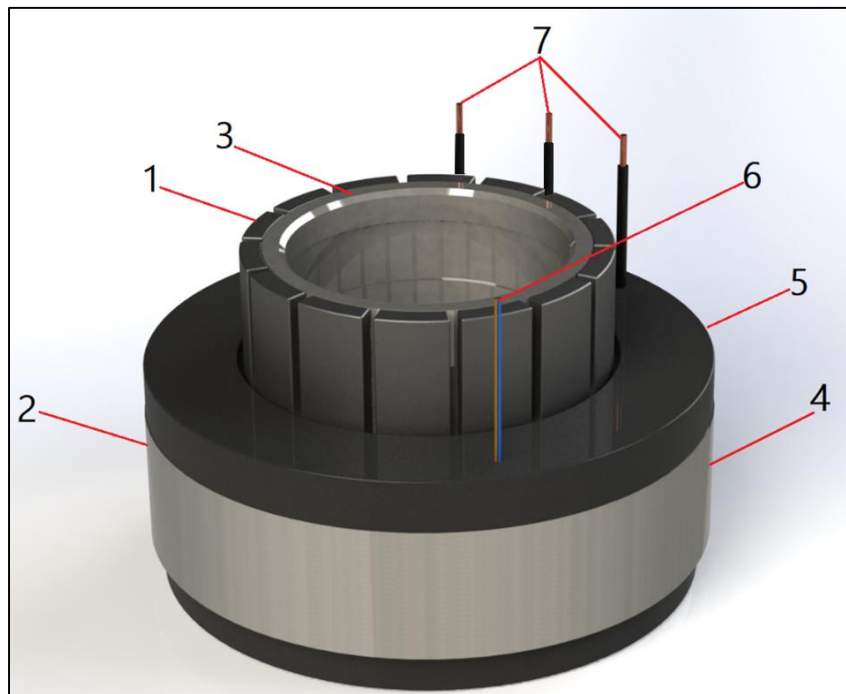

Figure 1-1: Rotor and stator assemblies with cable outputs
Using cable output (6) (see Figure 1-1), you can connect the thermistor to a controller. The controller uses the thermistor readings to prevent overheating, cutting the motor off in case the maximum temperature setting is exceeded.